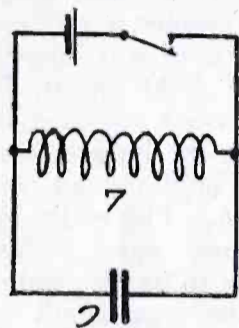

Fig. 5. Representation of Impulse Excitation
**METHOD I.** This method is called the "impulse excitation of free period" method. Impulse excitation is a simple means of exciting a circuit to vibrate at its own period and damping regardless of the primary or exciting circuit. Pure impulse excitation is well represented by Fig. 5. Here we have a r.f. circuit consisting of  $L$  and  $C$  shunted by a battery and switch. If the battery circuit is closed and then abruptly opened the e.m.f. induced in  $L$  will charge  $C$ , which then discharges through  $L$  at the natural frequency of the circuit regardless of the presence of the battery circuit, which is aperiodic in its action, that is,